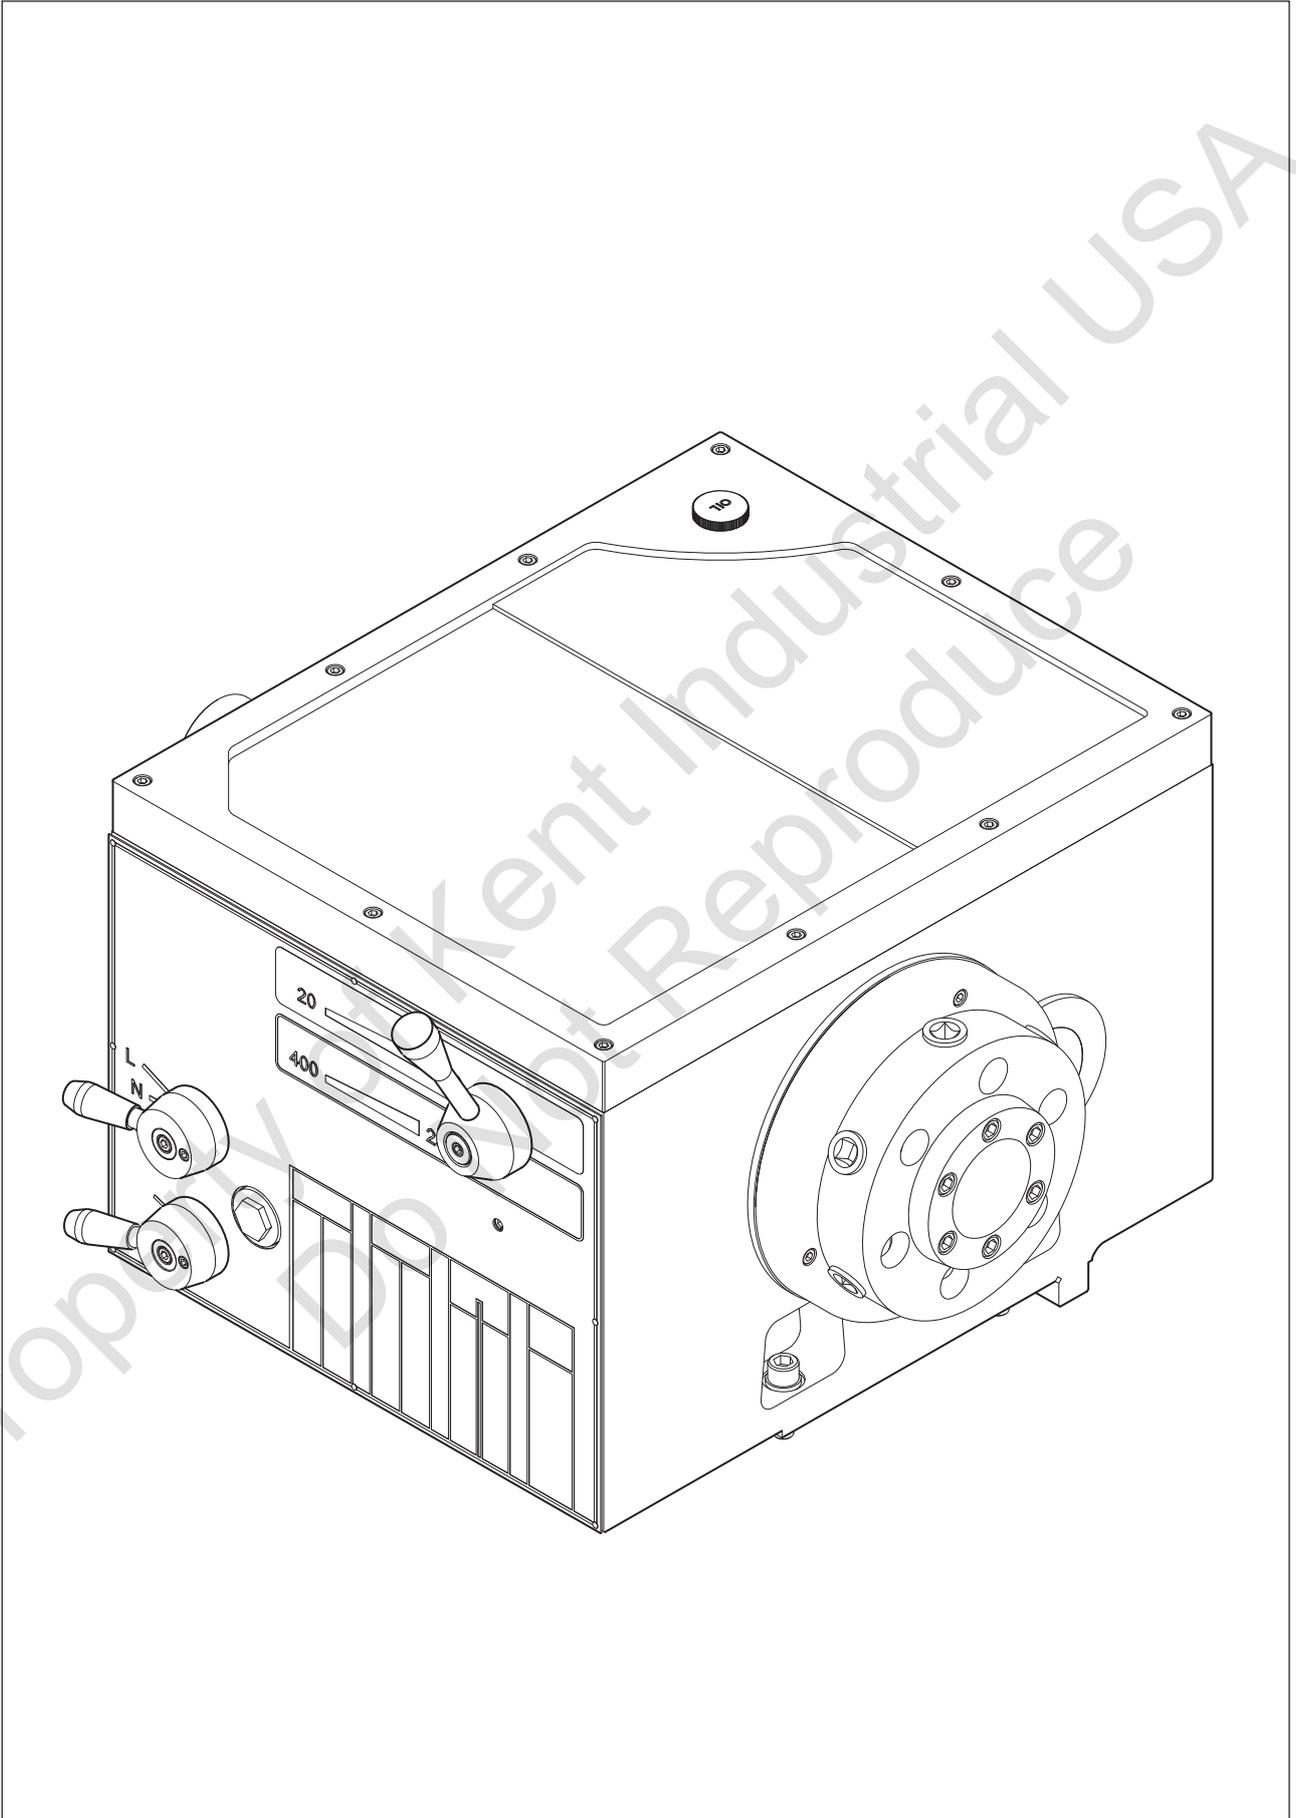

**Figure 107. Shroud washer positioning.**
10. With the pin completely seated in the bore and the head flush with the leadscrew shoulder, slide the shroud washer against the shoulder, then rotate the washer 180° until it covers the head of the shear pin, as shown in Figure 107.